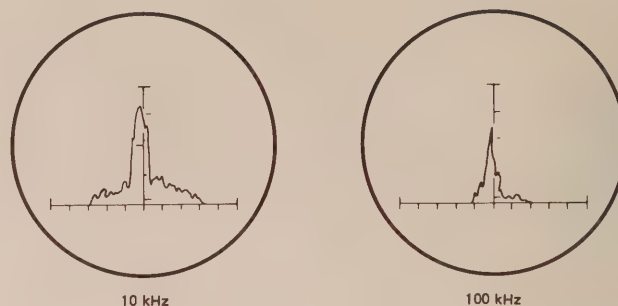

Figure 31
**Figure 31 - Overmodulated AM:** Very wide sidebands will appear with the carrier of an overmodulated AM signal. The approximate width can be measured by knowing the base line calibration.